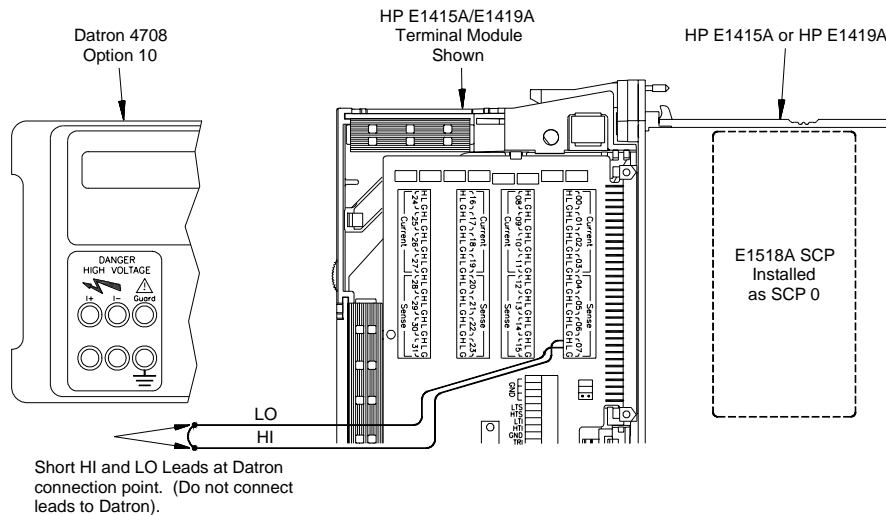

Figure 2-22. Channel Tare/Calibration Connections
- [a] Connect wiring to terminal block (see Figure 2-22)